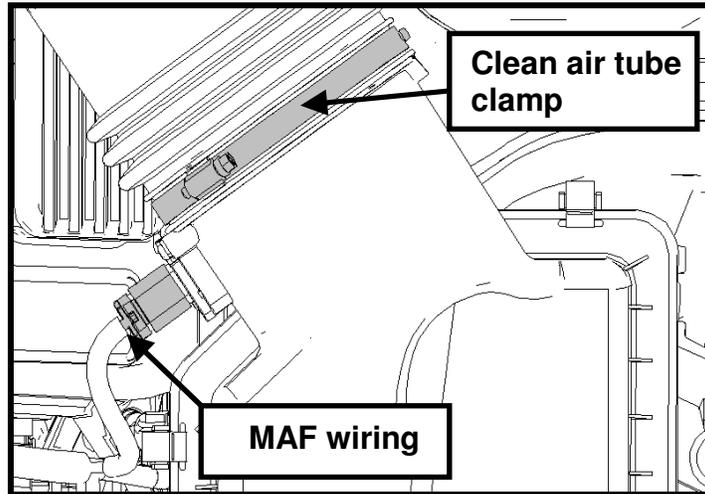

Fig. 1
**STEP 3:** Disconnect the MAF wiring from the airbox. Loosen the clean air tube clamp and disconnect the clean air tube from the airbox (See Fig. 1).